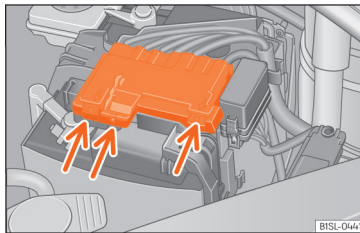

Fig. 185 In the engine compartment: remove the lid from the vehicle's battery.
- Press on the tabs »» Fig. 185 (arrows) in the direction of the arrows and lift the battery cover up.